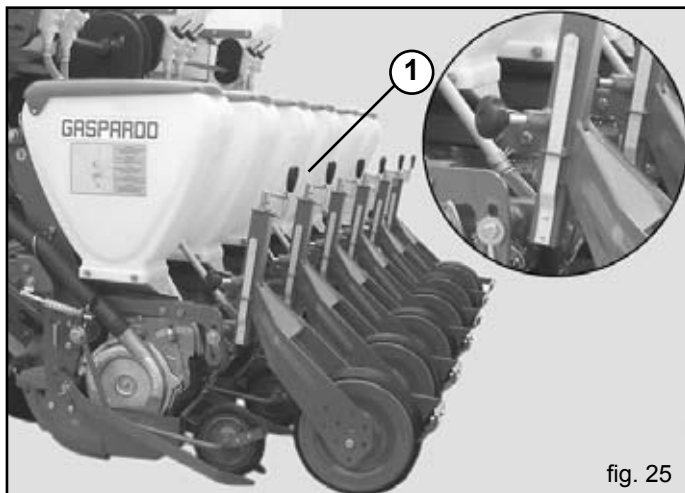
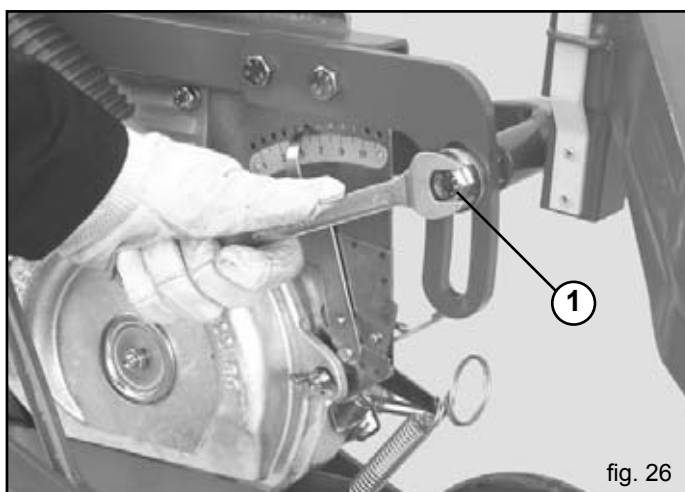

fig. 25
fig. 26
For the shoots to come up well it is important to place the seed at the right depth on the seeding bed. The handle varies the height of the furrow opener blade, and so determines the depth of the furrow on which to place the seed (1, Fig. 25). **The graduated indicator serves to adjust all the furrow openers at the same depth. The pointer of the adjustment scale is purely progressive; it does not show a variation in cm on the depth on the seeding.** In the beet configuration check that the equalizer is centred on the seed planting furrow; if necessary adjust screw (1) in Figure 26.